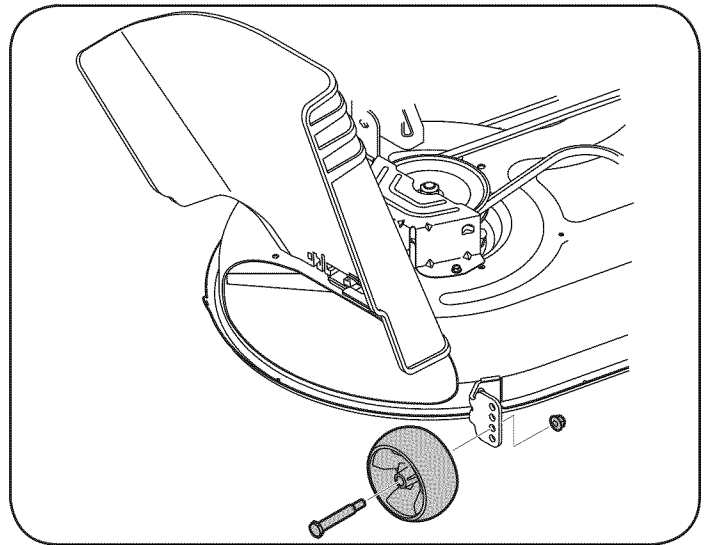

Figure 8
2. Position the wheel to the desired height as listed above. See Fig. 8.